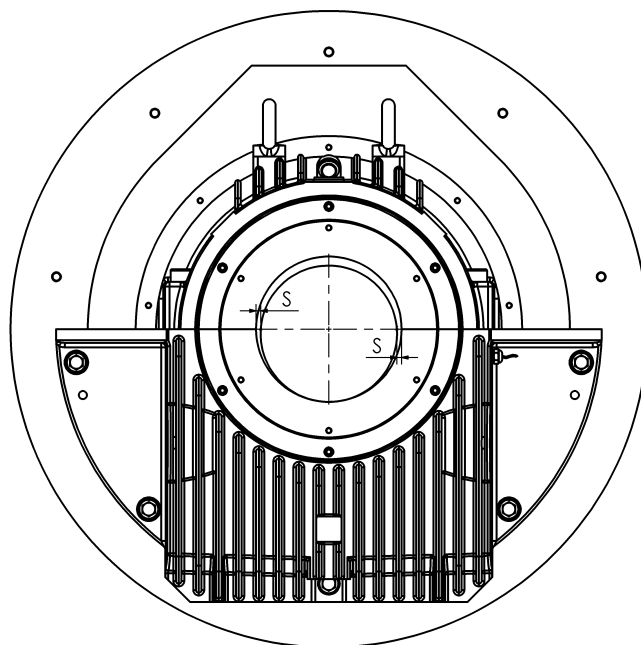

Fig. 45—Alignment of the rigid seal
- Place the upper part of the rigid labyrinth seal (18) on the shaft.
- Lightly press the lower part of the seal (19) onto the shaft from below.
- Hand-tighten the screws (17) at the split line.
- Adjust the lateral clearance "s" between the shaft and the rigid labyrinth seal (fig. 45).